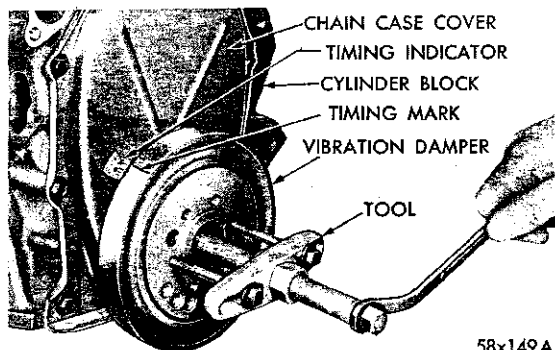

Fig. 20—Removing Vibration Damper Assembly Using Tool C-3688
(1) Drain the cooling system and remove the radiator and water pump assembly.
(2) Remove the crankshaft vibration damper attaching bolt.
(3) Remove two of the pulley bolts, install Tool C-3688, and pull the damper assembly off the end of crankshaft, as shown in Figure 20.
(4) Remove the chain cover and gasket.
(5) Slide the crankshaft oil slinger off the end of the crankshaft.